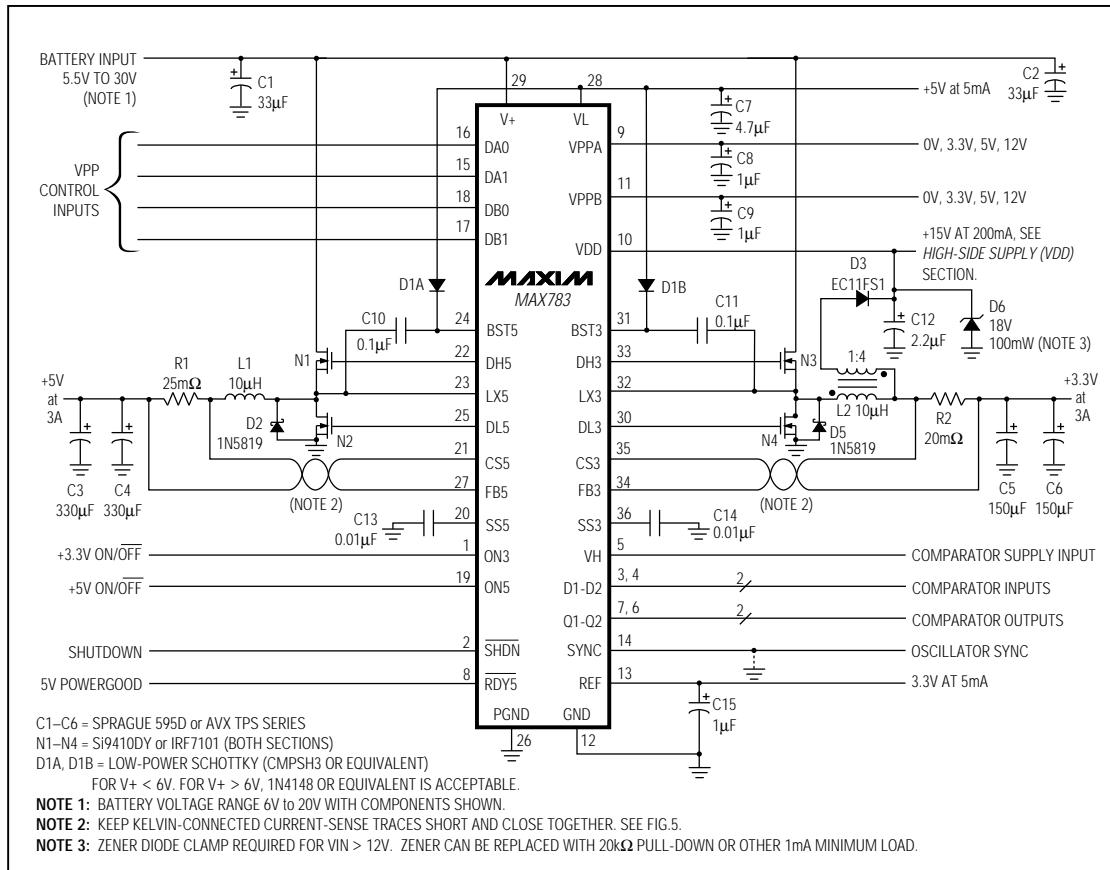
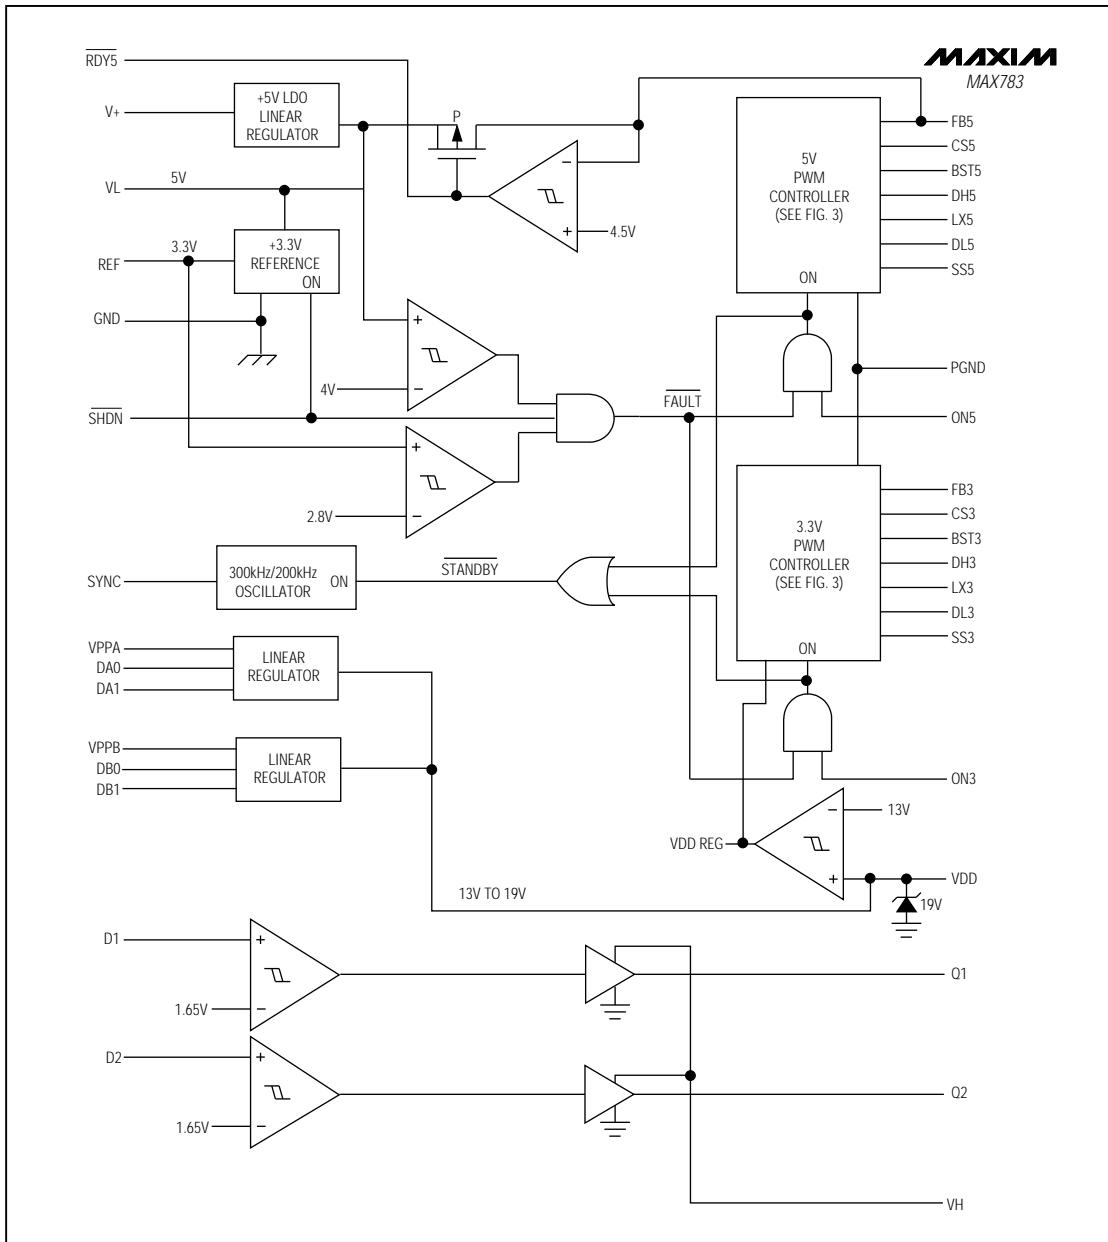

Figure 1. Standard Application Circuit
Figure 2. Block Diagram
(Circuit of Figure 1, Transpower TTI5902 transformer,  $T_A = +25^\circ C$ , unless otherwise noted.)
(Circuit of Figure 1, Transpower TTI5902 transformer,  $T_A = +25^\circ\text{C}$ , unless otherwise noted.)
The MAX783 converts a 5.5V to 30V input to six outputs (Figure 1). It produces two high-power, PWM switch-mode supplies, one at +5V and the other at +3.3V. The two supplies operate at either 300kHz or 200kHz, allowing for small external components. Output current capability depends on external components, and can exceed 6A on each supply. Two 12V VPP outputs, an internal 5V, 25mA supply (VL) and a 3.3V, 5mA reference voltage are also generated via linear regulators (Figure 2). Fault-protection circuitry shuts off the PWM and high-side supply when the internal supplies lose regulation.
The +5V supply is generated by a current-mode PWM step-down regulator using two N-channel MOSFETs, a rectifier, plus an LC output filter (Figure 1). The gate-drive signal to the high-side MOSFET, which must exceed the battery voltage, is provided by a boost cir-
cuit that uses a 100nF capacitor connected to BST5. The +5V supply's dropout voltage, as configured in Figure 1, is typically 400mV at 2A. As V+ approaches 5V, the +5V output falls with V+ until the VL regulator output hits its undervoltage lockout threshold at 4V. At this point, the +5V supply turns off.
Figure 1's predesigned application circuit contains the correct component values for 3A output currents and a 6V to 20V input range. Use the design procedure that follows to optimize this basic schematic for different voltage or current requirements.